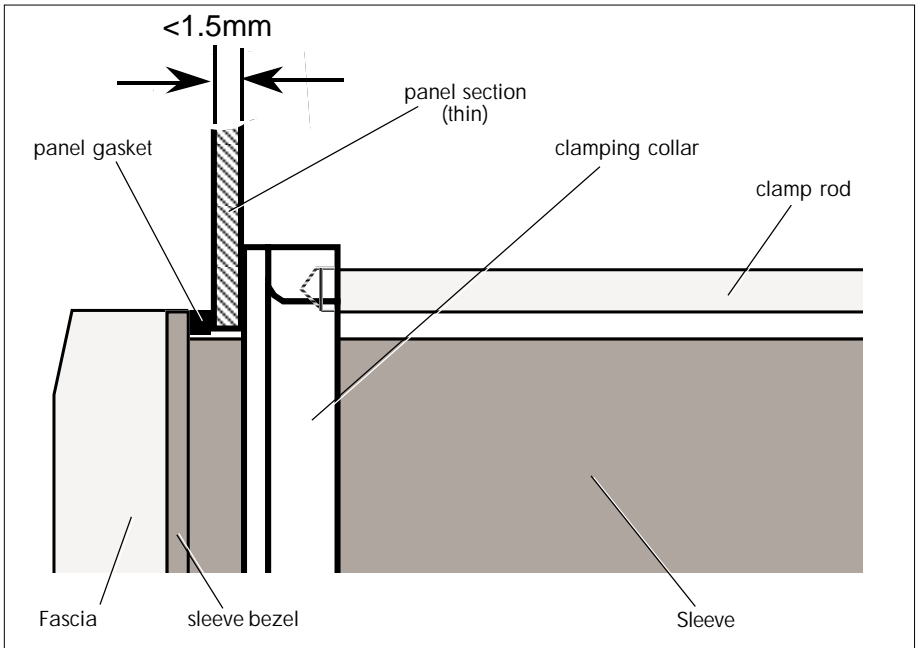

Figure 2-4 Detail of panel gasket and clamping collar (thin panels)
- A panel gasket must be fitted between the panel and the sleeve to provide adequate sealing when the clamps are tightened to the correct torque (0.6Nm maximum). Figure 2-4 shows the gasket in position, and also a clamping collar.
- A clamping collar (Part No. LA083377) must be used to reinforce thin (<1.5mm) and/or low-strength panels. See Figure 2-4.
- Clamping collars are recommended but not mandatory for thin and/or weak panels (see Figure 2-4).